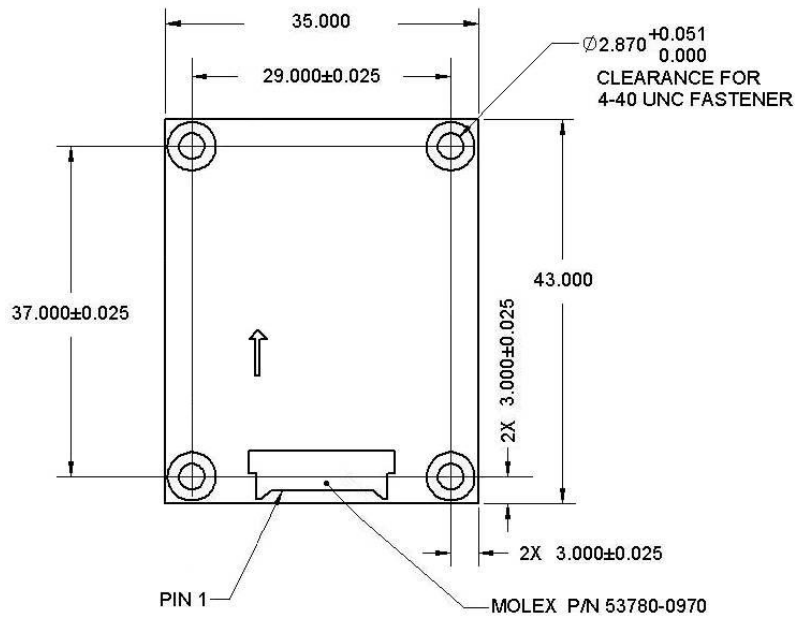

Figure 3-2: TRAX PCA Mechanical Drawing
1. Pin #1 is indicated on Figure 3-2.